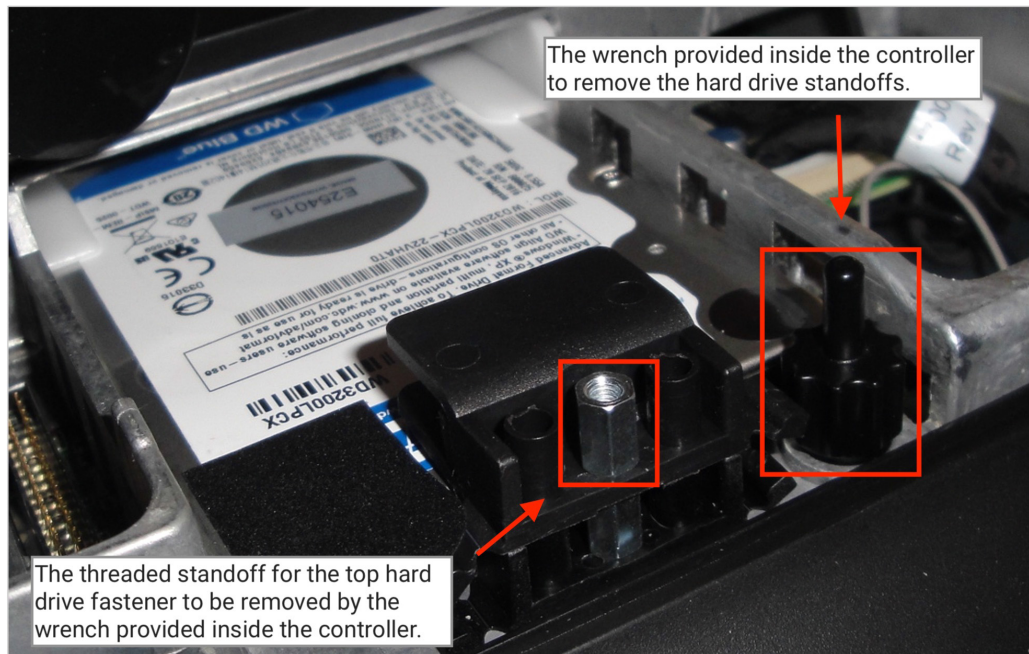
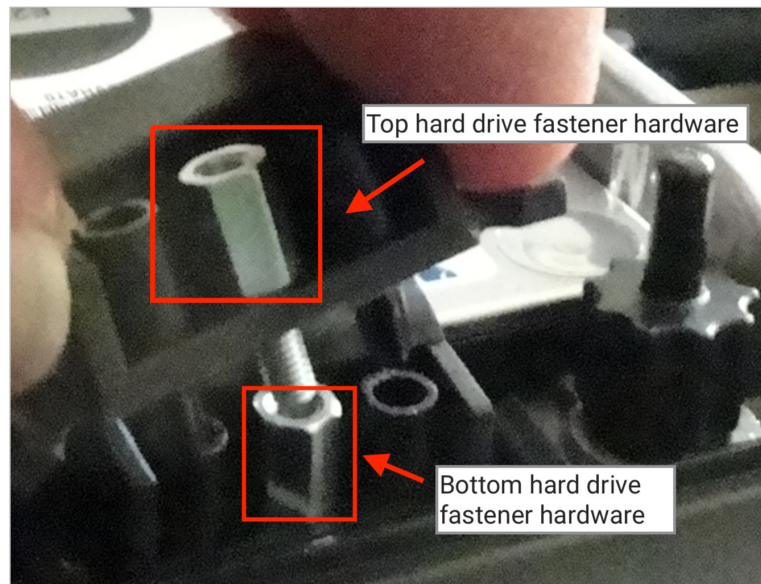

Figure 12. The wrench provided inside the controller, and the threaded standoff for the top hard drive fastener to be removed by the wrench.
Figure 13. The top and bottom hard drive fastener hardware.
- 8 There is a small wrench next to the hard drive (inside the XFe Controller), which is used to remove the standoffs holding the hard drive in position (**Figure 12**).
- 9 Remove the top position standoff fastener and set it aside (Figure 13).
- 10 Remove the bottom position fastener holding the hard drive in place (Figure 13).
- 13 Using the wrench provided inside the Controller (seen in **Figure 12**), reinstall the bottom position standoff fastener (seen in **Figure 13**), then install the top position standoff hard drive fastener (seen in **Figure 13**).